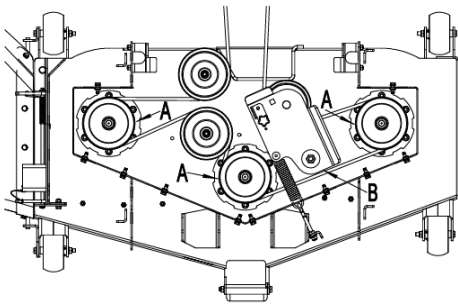
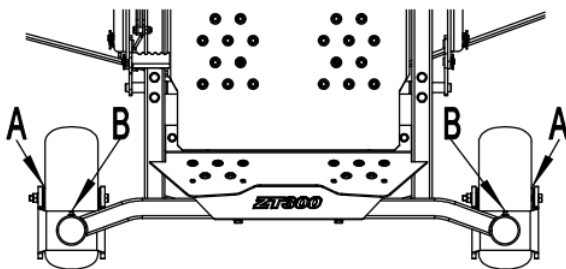

Fig. 10
Fig. 11
DO NOT let excess grease collect on or around parts, particularly when operating in sandy areas. See accompanying illustrations (Fig. 10 and Fig. 11) for the lubrication frequency points.
- The mower blade should have a maximum 1/64" (0.40mm) cutting edge (B, Fig. 11) or less.